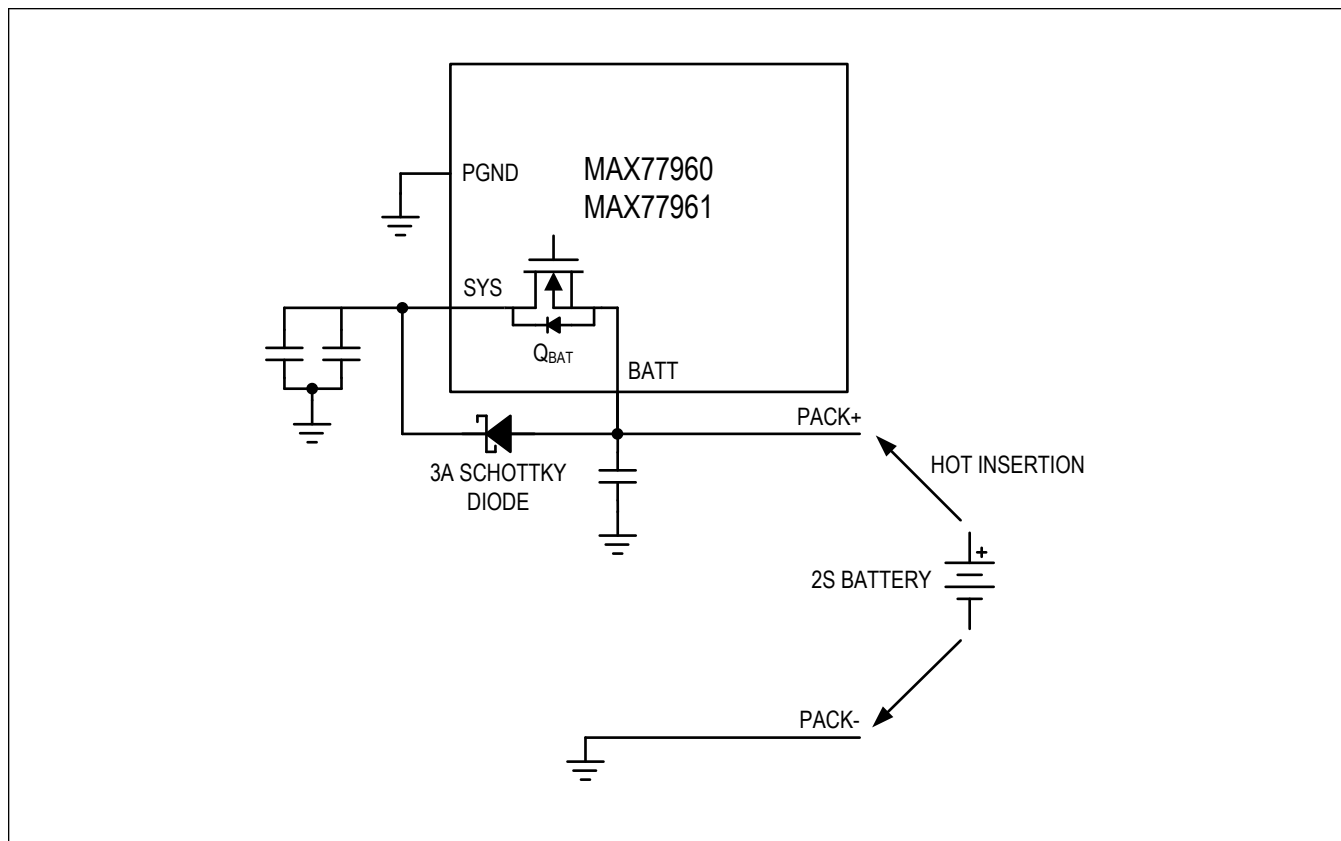

Figure 14. Battery Insertion Protection with 2S Battery
- For system designs with a 2S battery, include an external 3A Schottky diode from BATT to SYS. The Schottky diode has low forward voltage drop when conducting high current in the forward direction. It diverts the inrush current from BATT to SYS at battery insertion. The inrush current flowing through the Q_{BAT} FET is greatly reduced and therefore the IC is protected. See Figure 14.